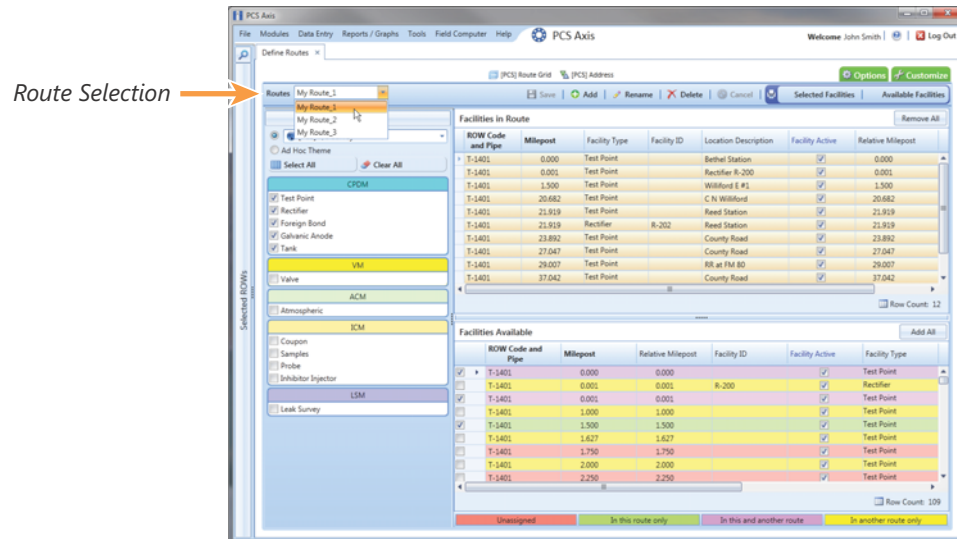

Figure 7-41. Define Routes
- 2 Click **Data Entry > Define Routes** to open the *Define Routes* window. Click the down arrow in the **Routes** field and select a route in the list (Figure 7-41).
- 2 Click **Data Entry** > **Define Routes** to open the *Define Routes* window. Click the down arrow in the **Routes** field and select a route in the selection list (Figure 7-41, page 327).
- 2 Click **Data Entry > Define Routes** to open the *Define Routes* window. Click the down arrow in the **Routes** field and select a route in the selection list (Figure 7-41, page 327).